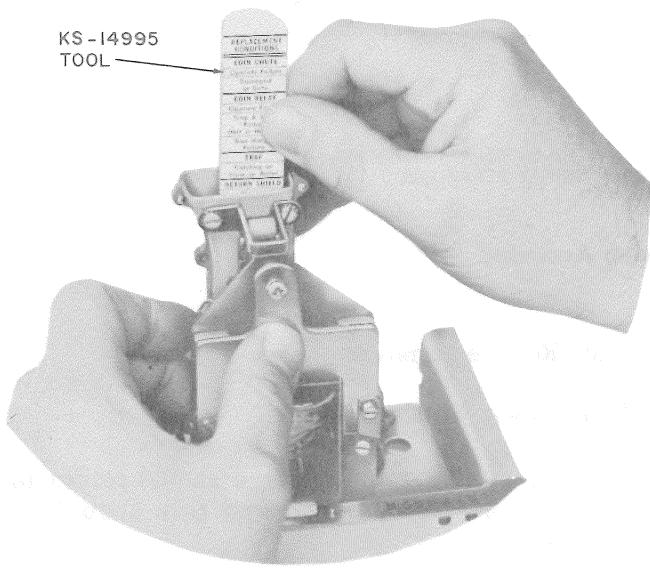

Fig. 42—Trap and Vane Release Test (Single Coin Relay)
- (1) Manually close coin relay armature to its full extent of travel.
- (2) Insert KS-14995, L3 tool into hopper to operate trap to the limit of its travel (Fig. 42).
(3) Release armature.
(4) Slowly withdraw tool.
(5) Armature, trap, and vane should return to nonoperated position and trap should be locked.
(6) Make test three times in both collect and refund positions, pressing left side of selector card ear for collect and right side for refund.
(7) If mechanism fails to restore properly, check mounting for binding.
- (1) Manually operate the coin relay armature to its fully closed extent of travel.
- (2) Allow relay to slowly return to its nonoperate position.
- (3) Insert KS-14995, List 3 tool into hopper (Fig. 42). Apply firm downward pressure with tool on coin trap in hopper throat; but **DO NOT FORCE** down enough to bend or break parts.
- (4) If this firm **but not excessive** downward force does not cause the trap lever spring to release the trap, the existing spring is operating adequately. If the trap is released by this action, a new 840157333 wire spring should be installed.